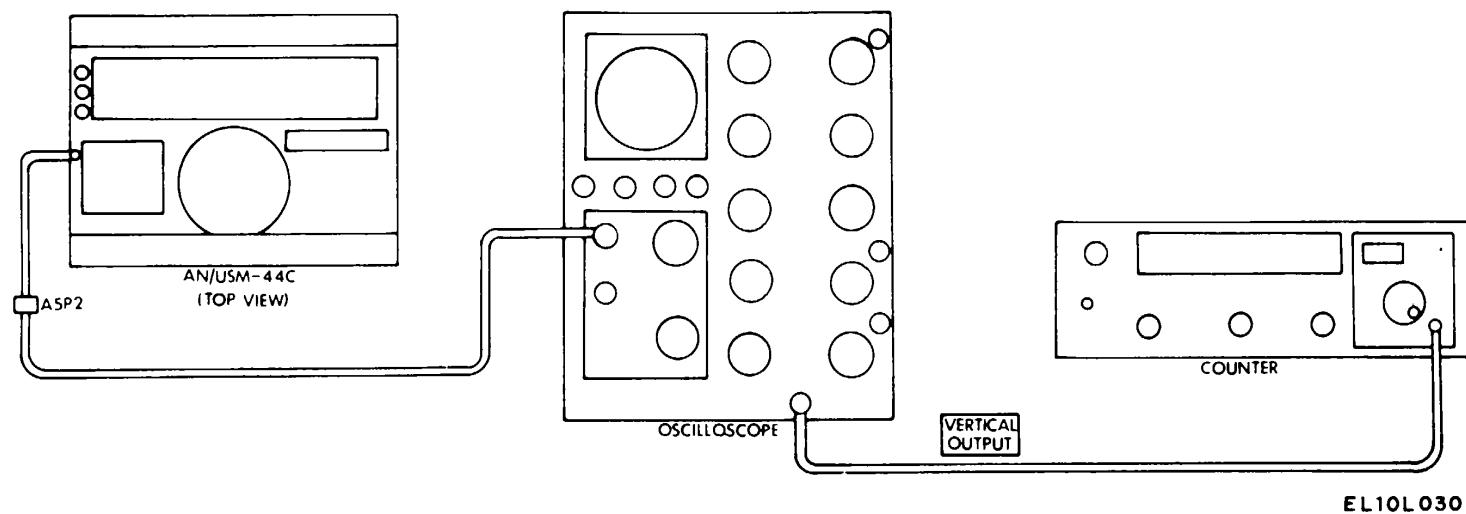

Figure 7-23. Marker frequency adjustment, test setup.
(1) Set MARKERS FREQ switch to 5 MHz and MARKERS VOLUME control fully clockwise.
(2) Connect test equipment as shown in figure 7-23
(3) Adjust C3 on A7 for exactly 5MHz as indicated on the frequency counter.